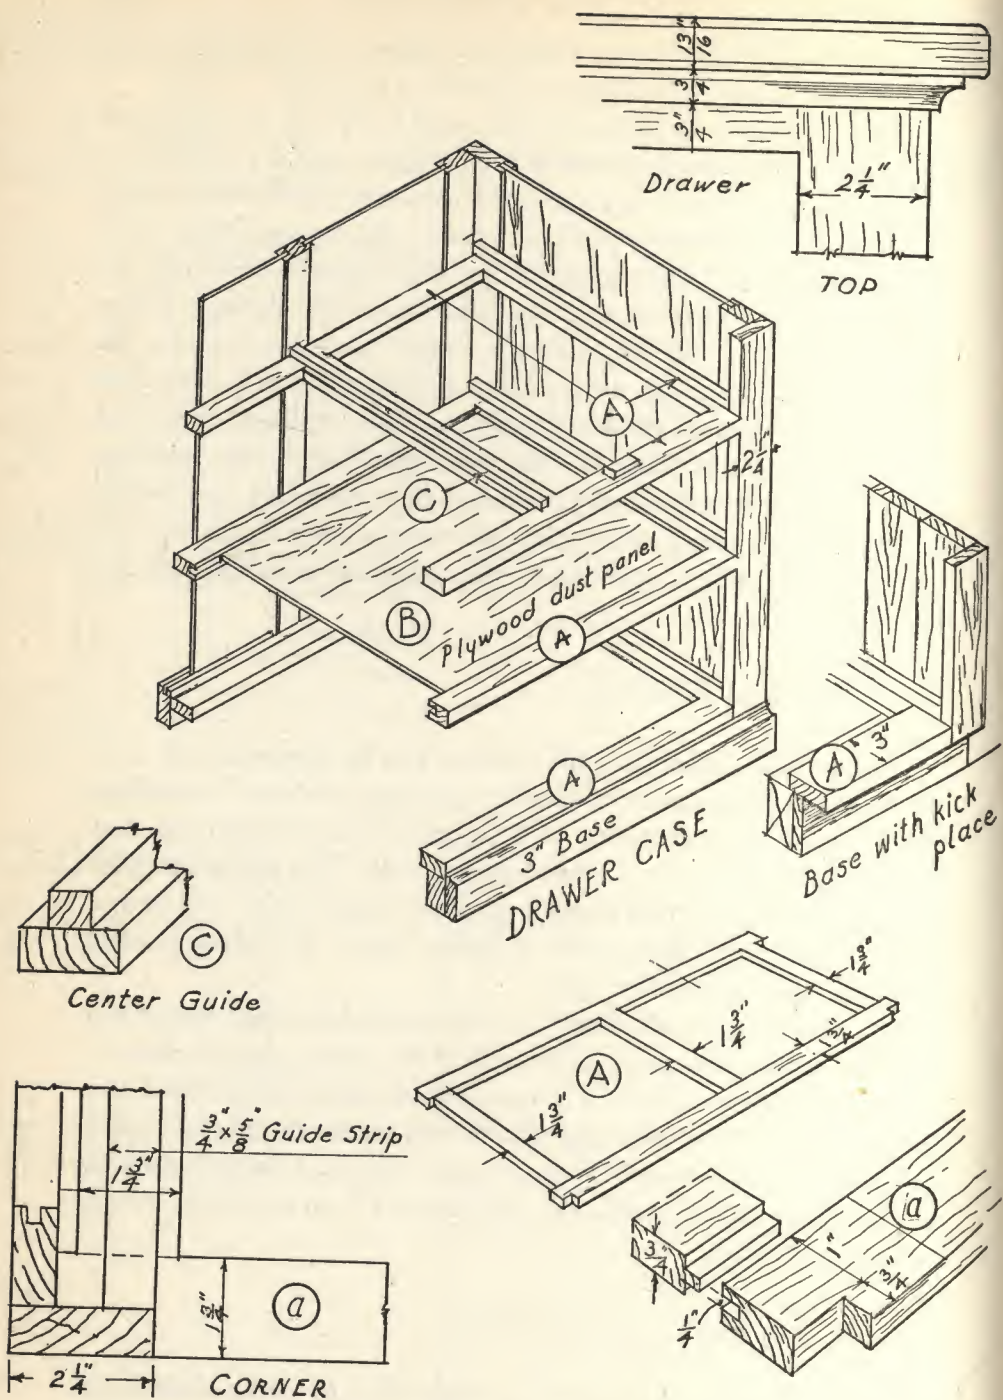

Fig. 92. Drawer-case construction: (A) drawer slide, (B) dust panel, (C) center guide.
In the first place, a drawer case is a framework in which the drawers may run easily (Fig. 92). The sides and back may be paneled, sheathed, or left uncovered; but the framework is the same in any case. The most important feature is the drawer slide, on which the drawer does slide. This may be just a stick fastened to the side of the case, but the best and the fundamental construction is shown at (A) in Fig. 92. If dust-proof drawers are desired, a plywood panel is framed in as shown at (B). The front corners are notched (*a*) to make front edge of frame flush with the side casing. Instructions for notching, mortising, and gaining are given on page 209.